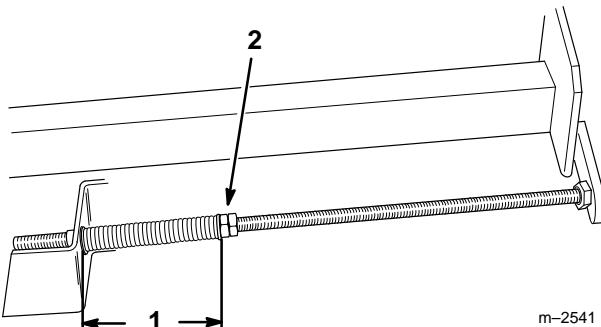

Figure 27
6. Tighten the jam nuts on the adjusting shafts until the springs are compressed to a length of 5" (12.7 cm) (Fig 27).